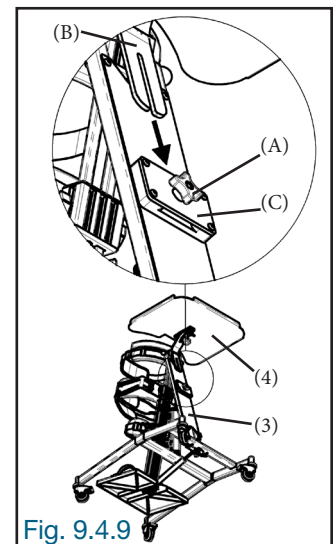

Fig. 9.4.9
9.4.9 Loosen the locking knob (A) slightly on the slide (C) of the stabilizer (3). Insert the support (B) of the table (4) into the slide (C), then tighten the locking knob (A) firmly to fix its position (Fig. 9.4.9).